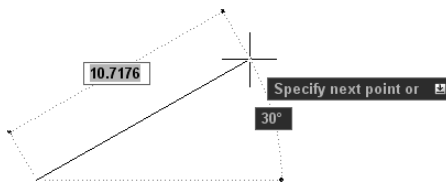

Figure 1-5: After specifying the first point of a line, the Dynamic Input bar prompts you for the next point.
4. Anywhere on the screen, stop moving the mouse and click the left mouse button to pick a point. When you move the mouse again, the Dynamic Input bar changes to prompt you to specify the next point, and to show you the angle and length of the cursor from the original point you picked, as shown in Figure 1-5.